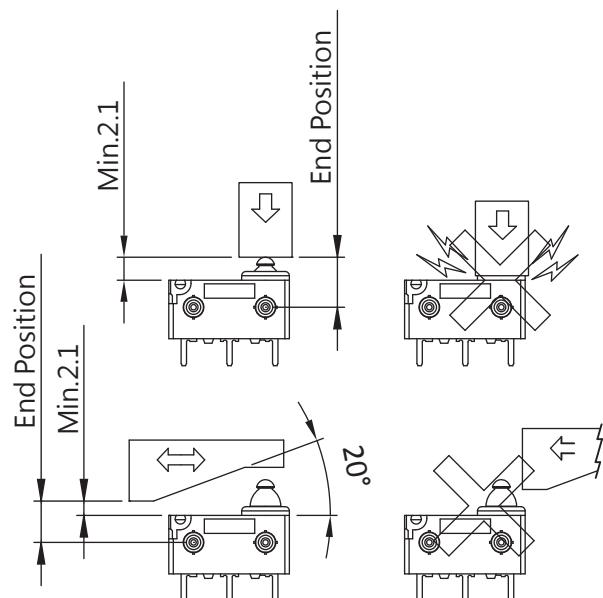

Figure-2
4. Do not exceed the end position (EP) and over travel (OT).This could cause operation failure.(Figure-2)
5. Do not exceed the end position (EP) and over travel (OT).This could cause operation failure.(Figure-2)